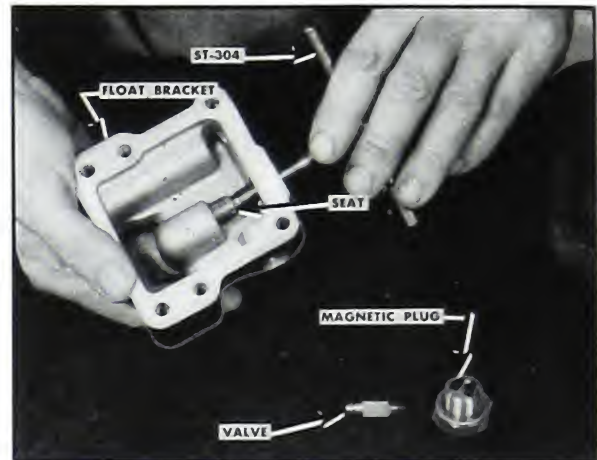

Fig. 5-273. Removing float valve seat
4. If necessary, remove the float valve seat with ST-304 tool. Fig. 5-273.
6. Use ST-304 and replace valve seat. Fig. 5-273.